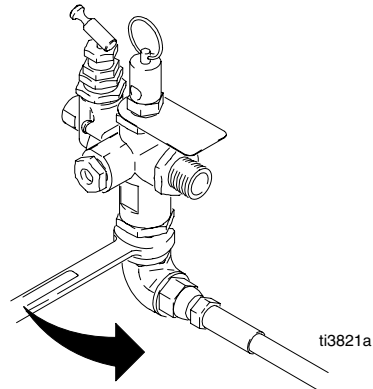

Fig. 15
3. Remove right angle fitting. Fig. 15.